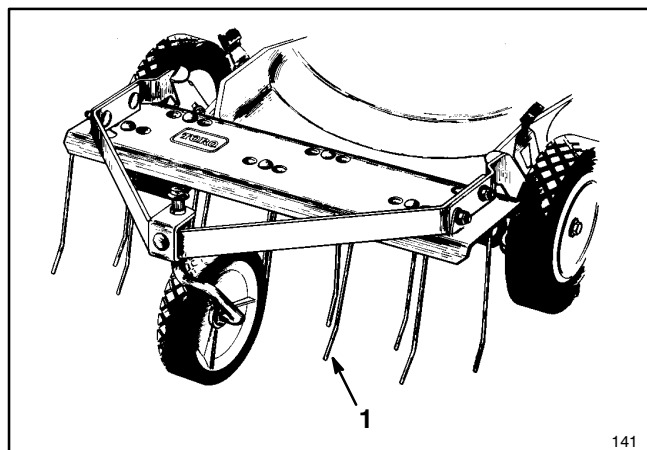

Figure 38
1. Dethatcher Kit, Model No. 59131—Installs in minutes. Front mounted for easy maneuverability. Spring tines loosen thatch for clean vacuuming into grass bag (Fig. 38) and convenient disposal.